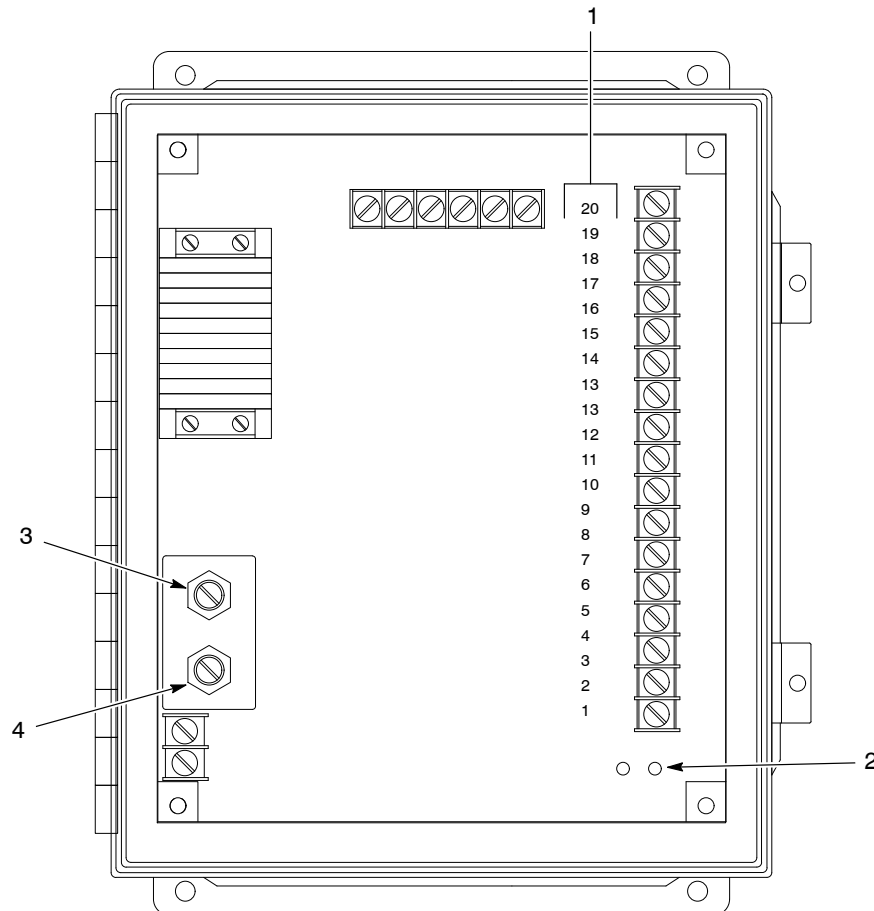

Figure 2-9 Pulse-Valve Timer Panel
Refer to Table 2-7 and Figure 2-9. The pulse-valve timer panel houses the timer circuit board. The panel is usually mounted on the fan section. The timer board is wired to the electrical panel and the pulse-valve solenoid enclosure(s) inside the fan section.
3. Open the pulse-valve timer panel (9). Set the pulse-valve off timer (see Figure 2-9, (4)) to 15 seconds and the pulse valve on timer (see Figure 2-9, (3)) to duration to 0.07 seconds. Close the timer panel.